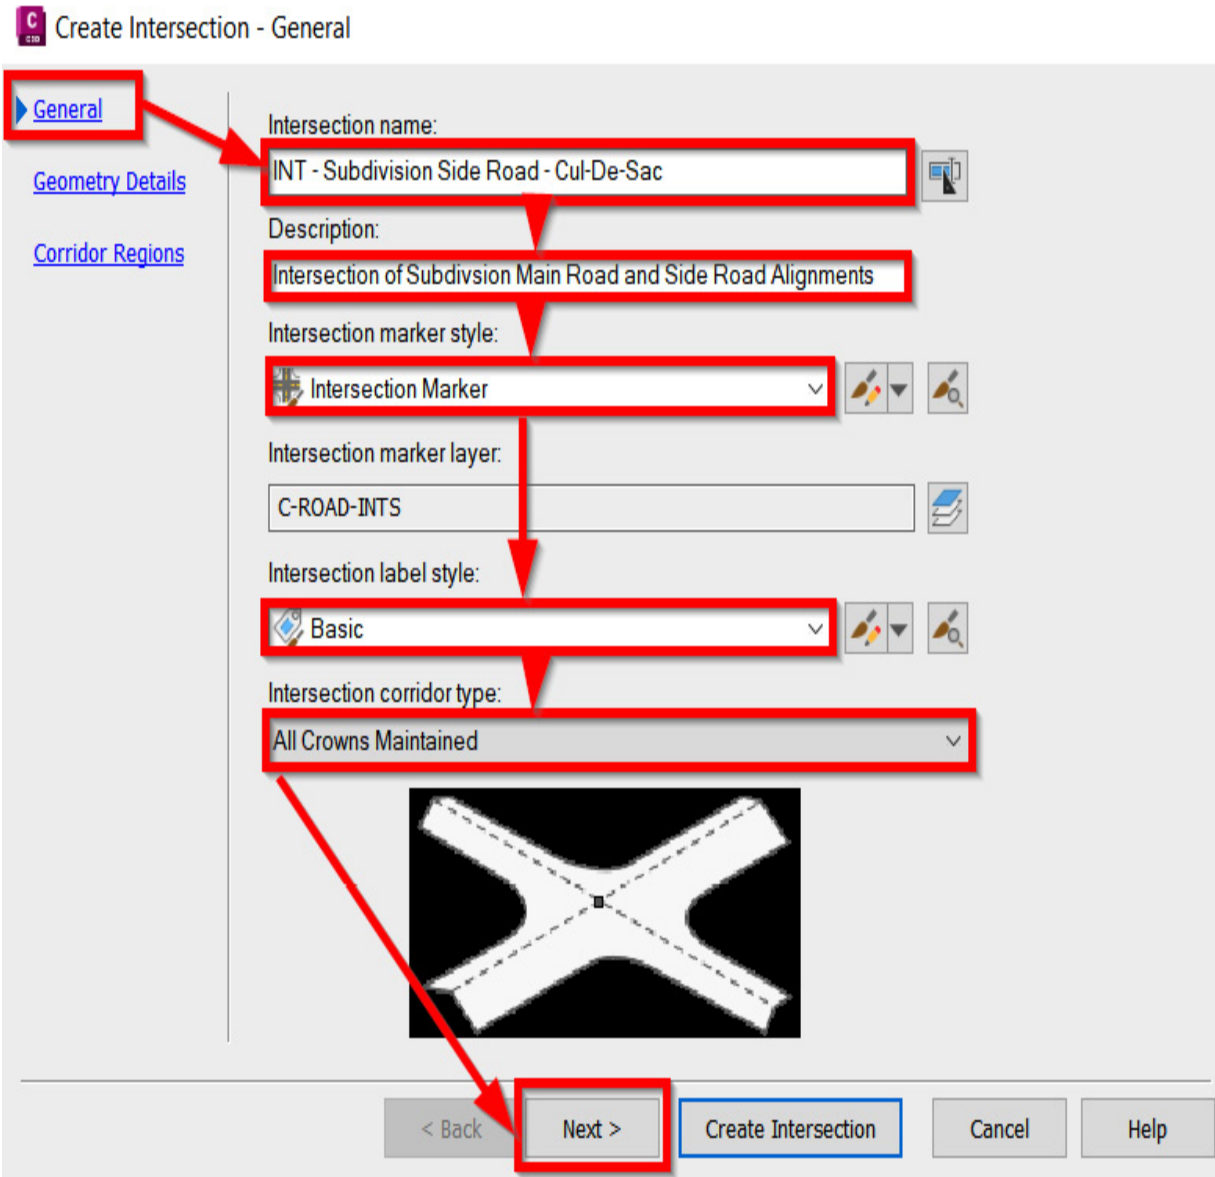

Figure 10.31 – Create Intersection | General
3. Civil 3D's **Create Intersection** dialog box will appear, starting with the **General** tab. We'll want to fill out the fields as follows in our **General** tab (also displayed in *Figure 10.31*) and select the **Next** button at the bottom of the **Create Intersection** dialog box: